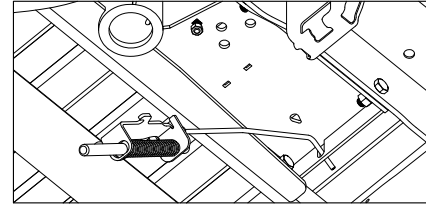
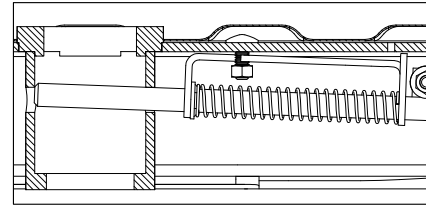

FIGURE E3: View under bed looking up at driver side frame from in front of the axle on passenger side.
FIGURE E4: Cut-away of center section
2. **Position the latch assembly.** Feed the handle through the hole in the end of the center as shown in figure E3. Start the latch pin through the first hole in the receiver socket while guiding the carriage bolt into the slot on the latch, see figure E4.